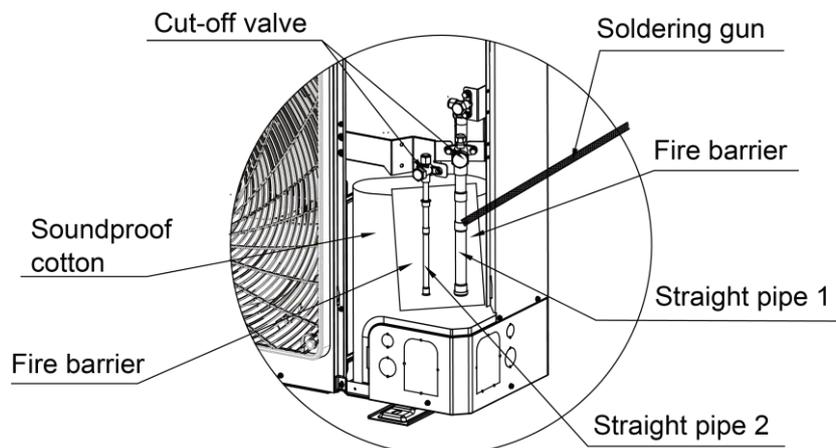
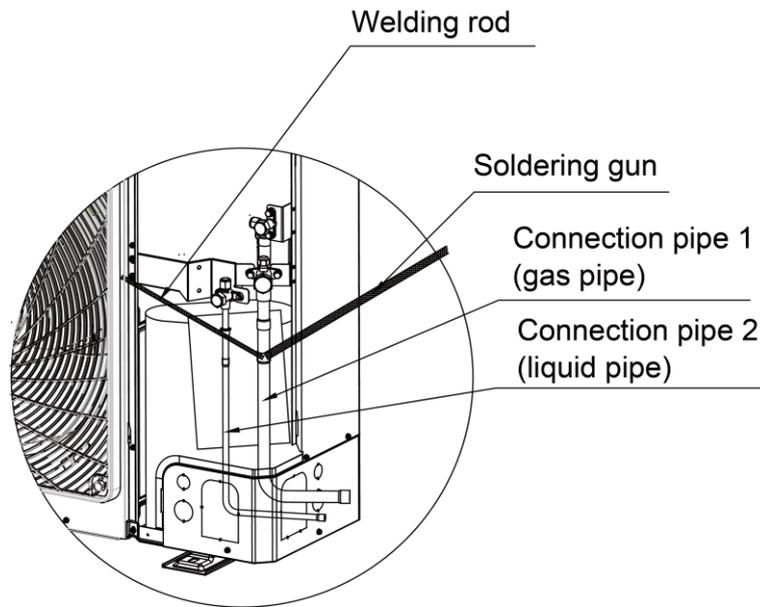

Fig. 15
Fig. 16
- (1) Pipe connection for M-VS-OV-224-SG:As shown in Fig.15 and Fig.16, open the outermost soundproof cotton and place a fire barrier between compressor and straight pipe. Use a soldering gun to unsolder straight pipe 1 and straight pipe 2. Install connection pipe 1 and connection pipe 2 to the corresponding position and then seal the apertures with welding rod. First weld the liquid side connection pipe and then weld the gas side connection pipe. During welding, it's necessary to use wet gauze to wrap up the two cut-off valves. Make sure the flame won't burn the soundproof cotton or other components.